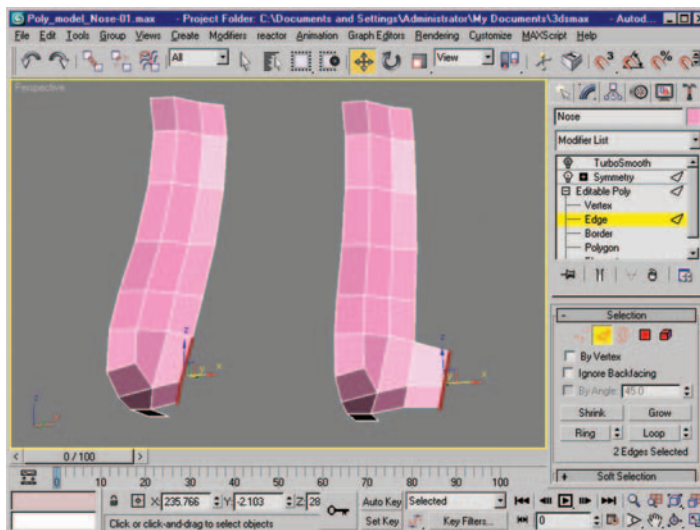

Figure 3.15 Edge selection and resulting mesh after shift-drag.
15. Subtract the top five edges from our existing edge selection and shift-drag the remaining two bottom edges. We are quickly forming the shape of the nostrils; some moving of edges and vertices is required to get an accurate representation (Figure 3.15).